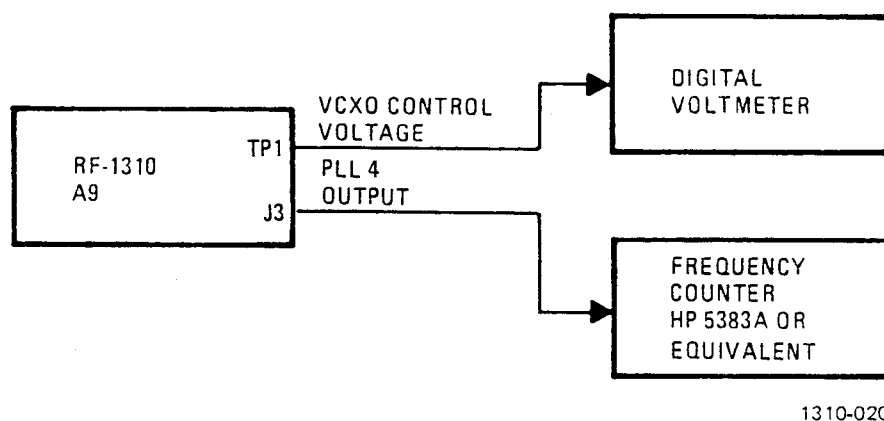

Figure 3. VCXO Alignment
- a. Connect equipment as shown in figure 3.